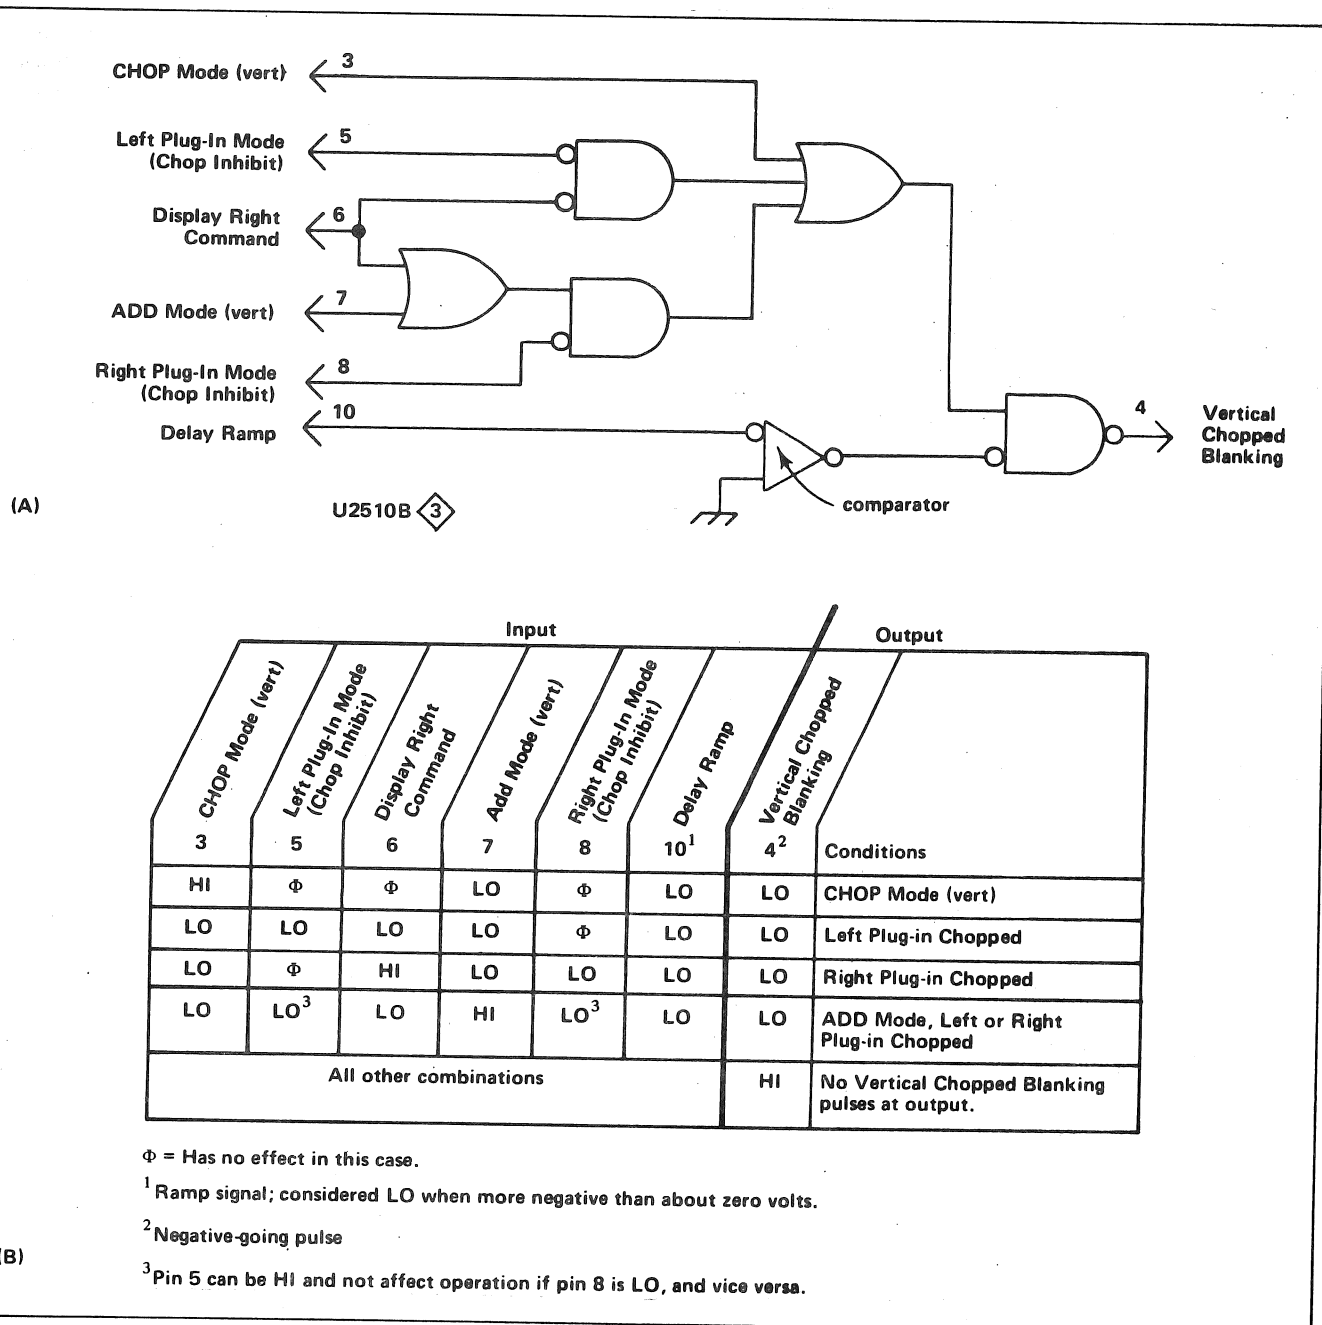

Figure 14. (A) Logic diagram for Vertical Chopped Blanking stage; (B) Table of input/output combinations.
Figure 14 shows a logic diagram and an input/output table for the Vertical Chopped Blanking stage. Notice the comparator block on the diagram. The output of this comparator is determined by the relationship between the levels of its inputs. If pin 10 is more positive (HI) than the grounded input, the output is HI also; if it is more negative, the output is LO.